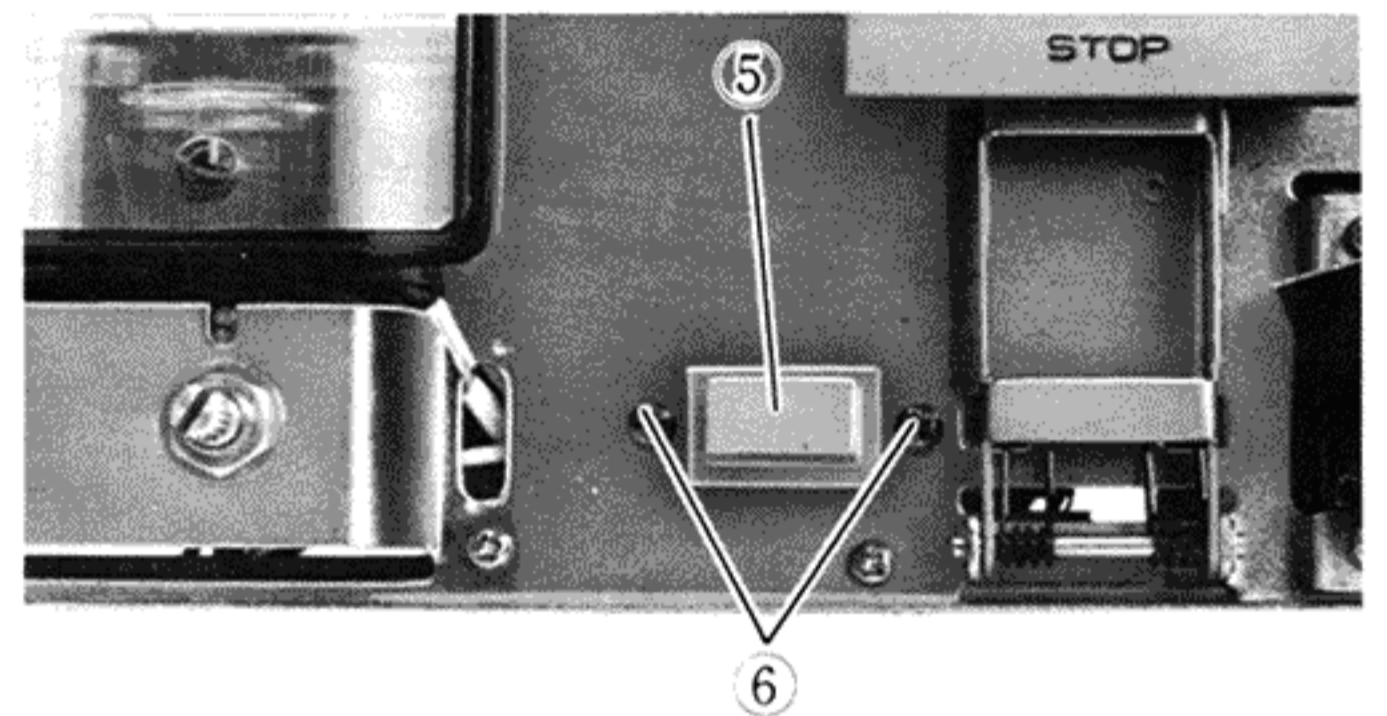

Fig. 10-3
- 3) Equalizer circuit board (Fig. 10-3)